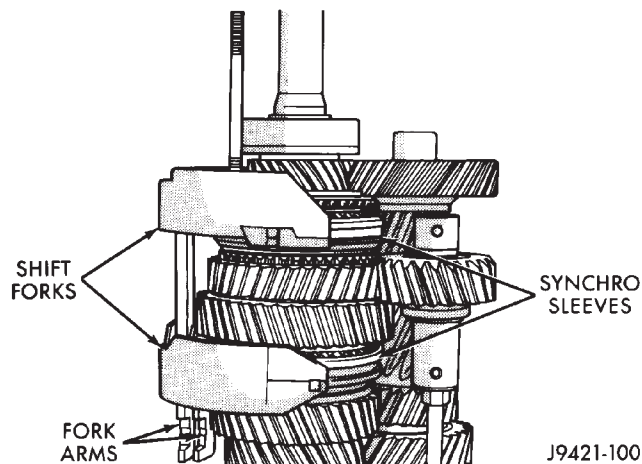

Fig. 93 Shift Forks Installed In Synchro Sleeves
(13) Install assembled shift forks in synchro sleeves (Fig. 93). Be sure forks are properly seated in sleeves.